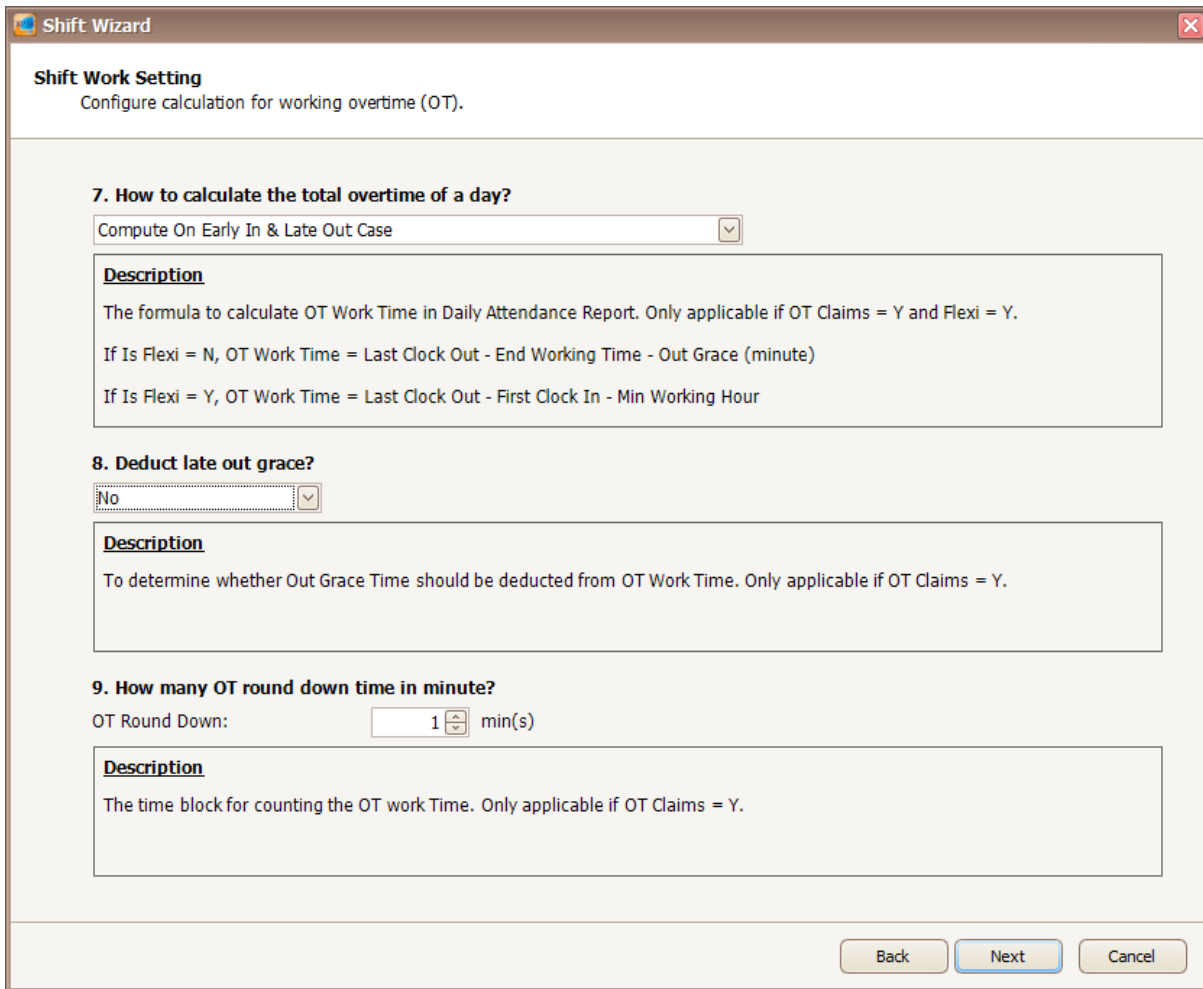

Figure 57 - Configure calculation of OT
8. The following screen will be shown when you click Next (*Refer Figure 57*). You can configure the calculation for staff who working overtime. You can refer to the description provided to configure the OT. Click Next to proceed to the next screen.